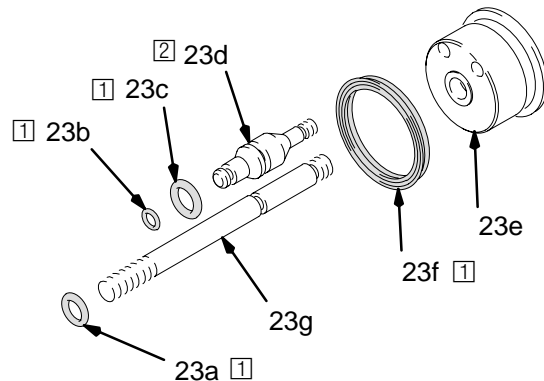
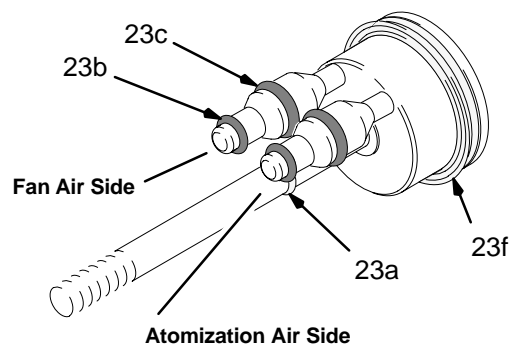

Fig. 33
Fig. 34
5. Inspect the o-rings (23a, 23b, 23c) and u-cup packing (23f) for damage. See Fig. 33. Refer to Fig. 34 to isolate air leakage problems.